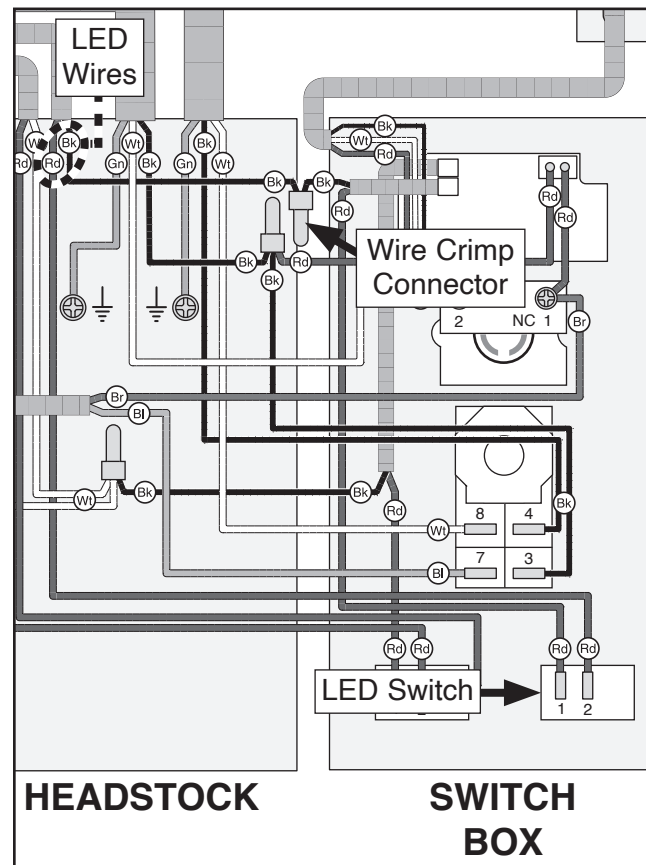

Figure 75. LED wiring.
7. Disconnect LED wires from wire crimp connector and LED switch (see **Figure 75**), then tie string to end of LED wires to aid in installation of new LED.